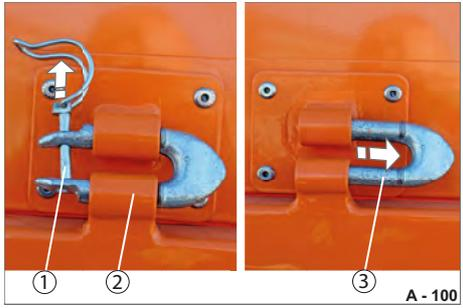

Fig. 105 Unfastening hinges
- ▶ Swing the spring clamp and pull out the socket pin (Fig. 105/1).
- ▶ Remove the U-bracket (Fig. 105/3) out of the hinge bearing (Fig. 105/2). If necessary, use a plastic hammer to knock out the U-bracket.